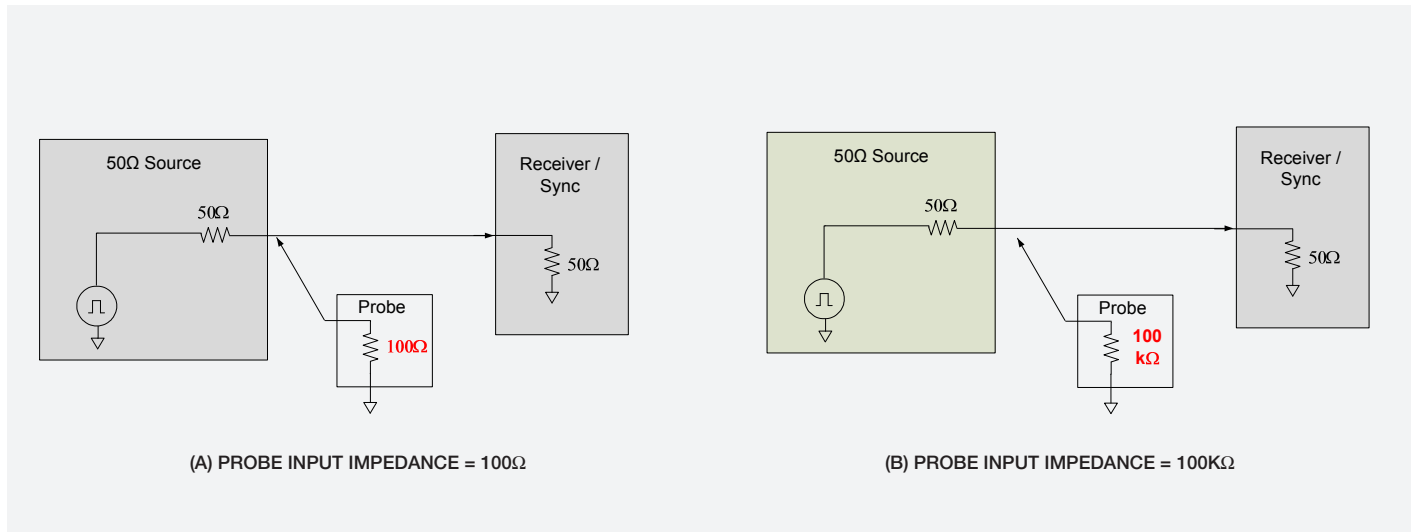

FIGURE 1. Probe loading is dependent upon the input impedance of the probe and the sensitivity of the circuit to this impedance.
When a probe is attached to a circuit, it is important to understand the probe’s impact on the circuit’s behavior. The degree of probe loading depends upon two factors: the input impedance of the probe and the sensitivity of the circuit to this impedance. Figure 1 illustrates a simple example of connecting two probes, one with low input impedance and one with high input impedance to a circuit with a source impedance of 50Ω that is terminated with 50Ω at the receiver (RX) portion of the system.